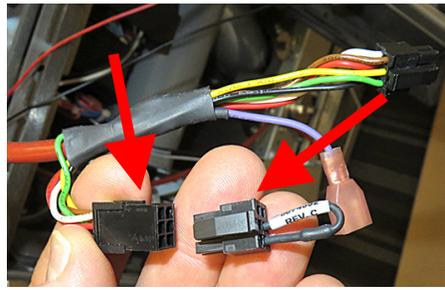

Figure 25
31. Attach the 6-pin male terminator removed in step 13 (or the 8074552 terminator that was included with these instructions) into the 6-pin female connector of OQS harness (see Figure 25).